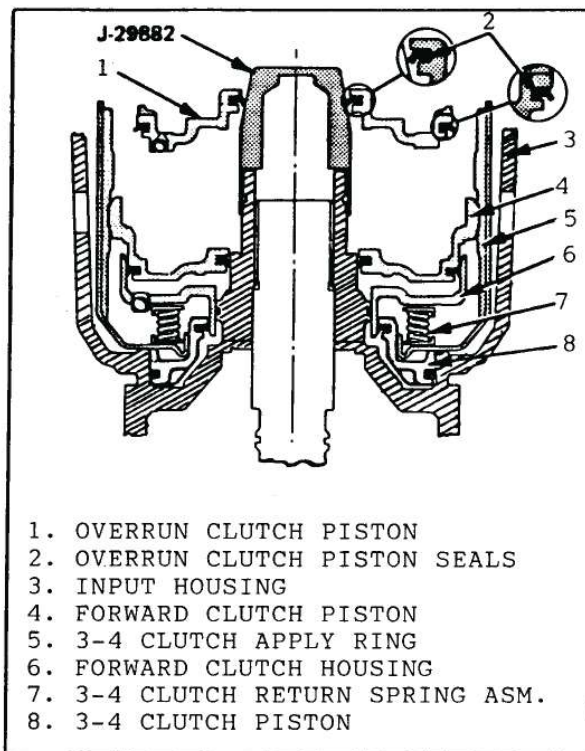

Figure 78
11. Install tool J-29882 as shown in Figure 78.
13. Install the inner and outer lip seals on the overrun clutch piston, as shown in Figure 78.
14. Install the overrun clutch piston over J-29882, with hub facing upward as shown in Figure 78.